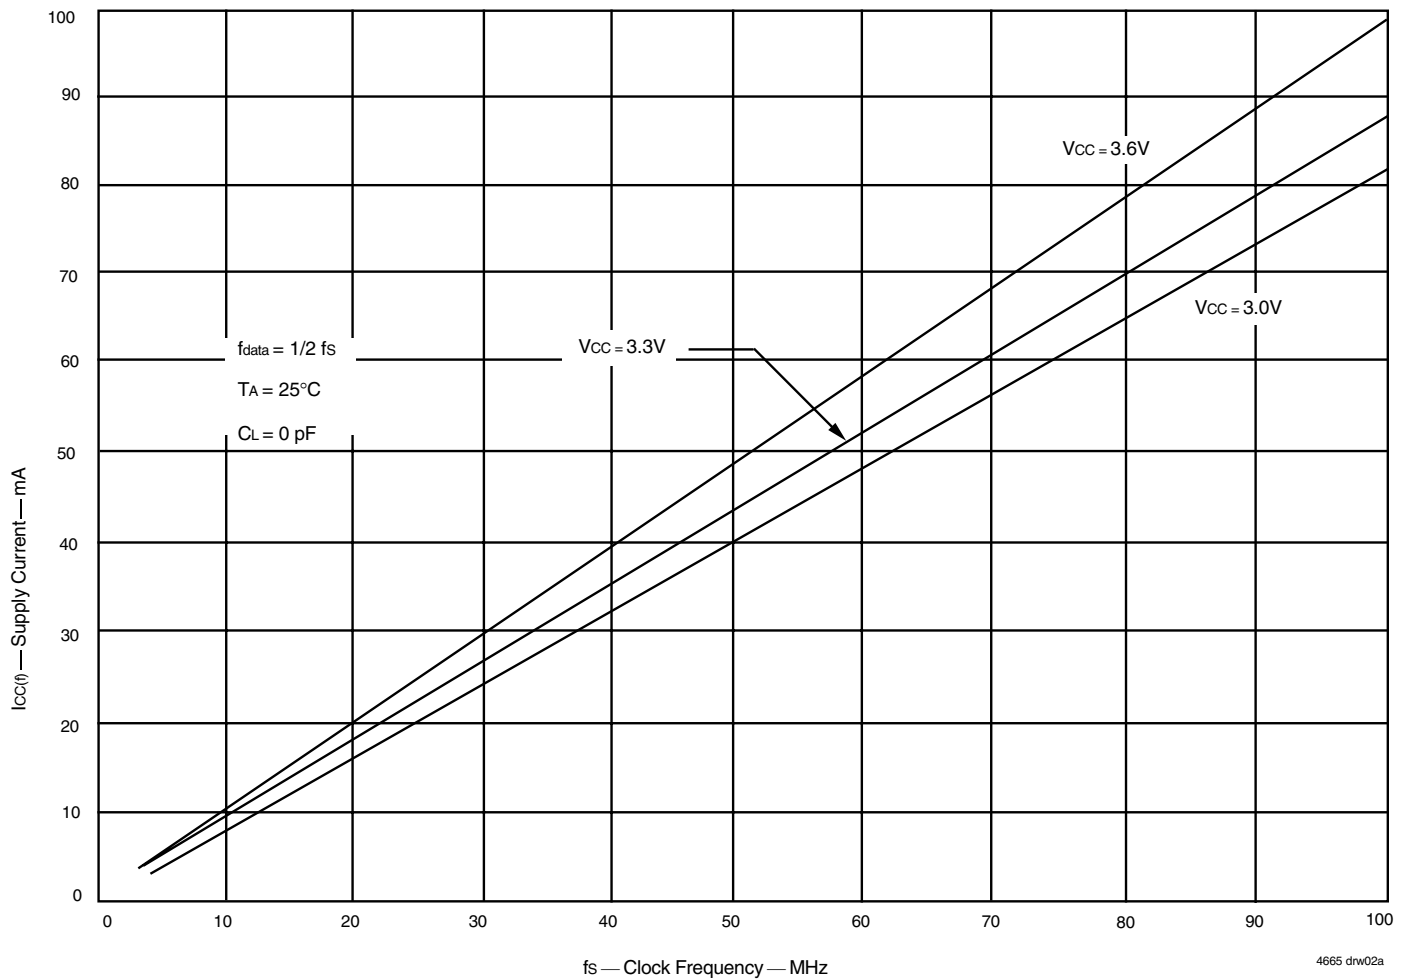

Figure 1. Typical Characteristics: Supply Current ( $I_{CC}$ ) vs. Clock Frequency ( $f_s$ )
- For additional ICC information, see Figure 1, *Typical Characteristics: Supply Current (ICC) vs. Clock Frequency (fs)*.
The  $I_{CC}(f)$  current for the graph in Figure 1 was taken while simultaneously reading and writing a FIFO on the IDT72V3656/72V3666/72V3676 with CLKA, CLKB and CLKC set to  $f_s$ . All data inputs and data outputs change state during each clock cycle to consume the highest supply current. Data outputs were disconnected to normalize the graph to a zero capacitance load. Once the capacitance load per data-output channel and the number of these device's inputs driven by TTL HIGH levels are known, the power dissipation can be calculated with the equation below.
With  $I_{CC}(f)$  taken from Figure 1, the maximum power dissipation ( $P_T$ ) of these FIFOs may be calculated by: